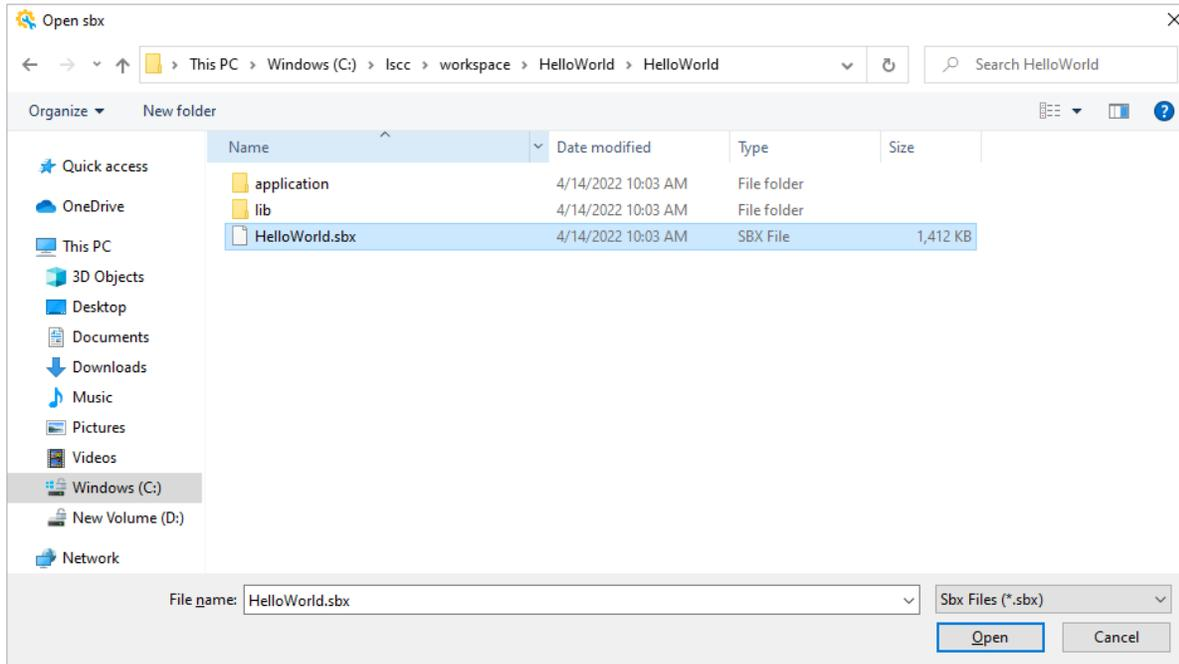

Figure 2.11. Open Existing Project
2. Browse to find the default project workspace folder or your own project workspace folder. Choose the sbx file, such as HelloWorld.sbx (Figure 2.11).